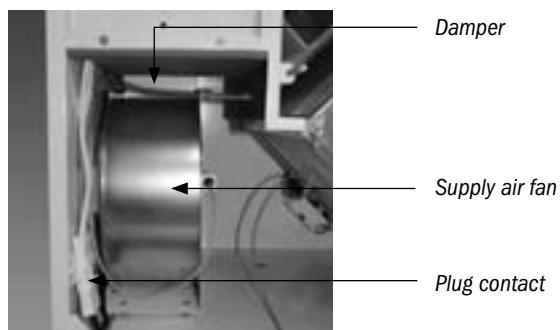

Figure 3.
3. The air heater for reheating is equipped with an electronic temperature limiting function that prevents the air heater from overheating. If a malfunction arises, the function switches off the air heater. If the overheating protection trips, this is a sign that something is wrong. The cause of the malfunction must always be found and remedied. The user can acknowledge overheating by pressing the reset button of the protection device in the supply air chamber, when the air heater has cooled off (Figure 3).